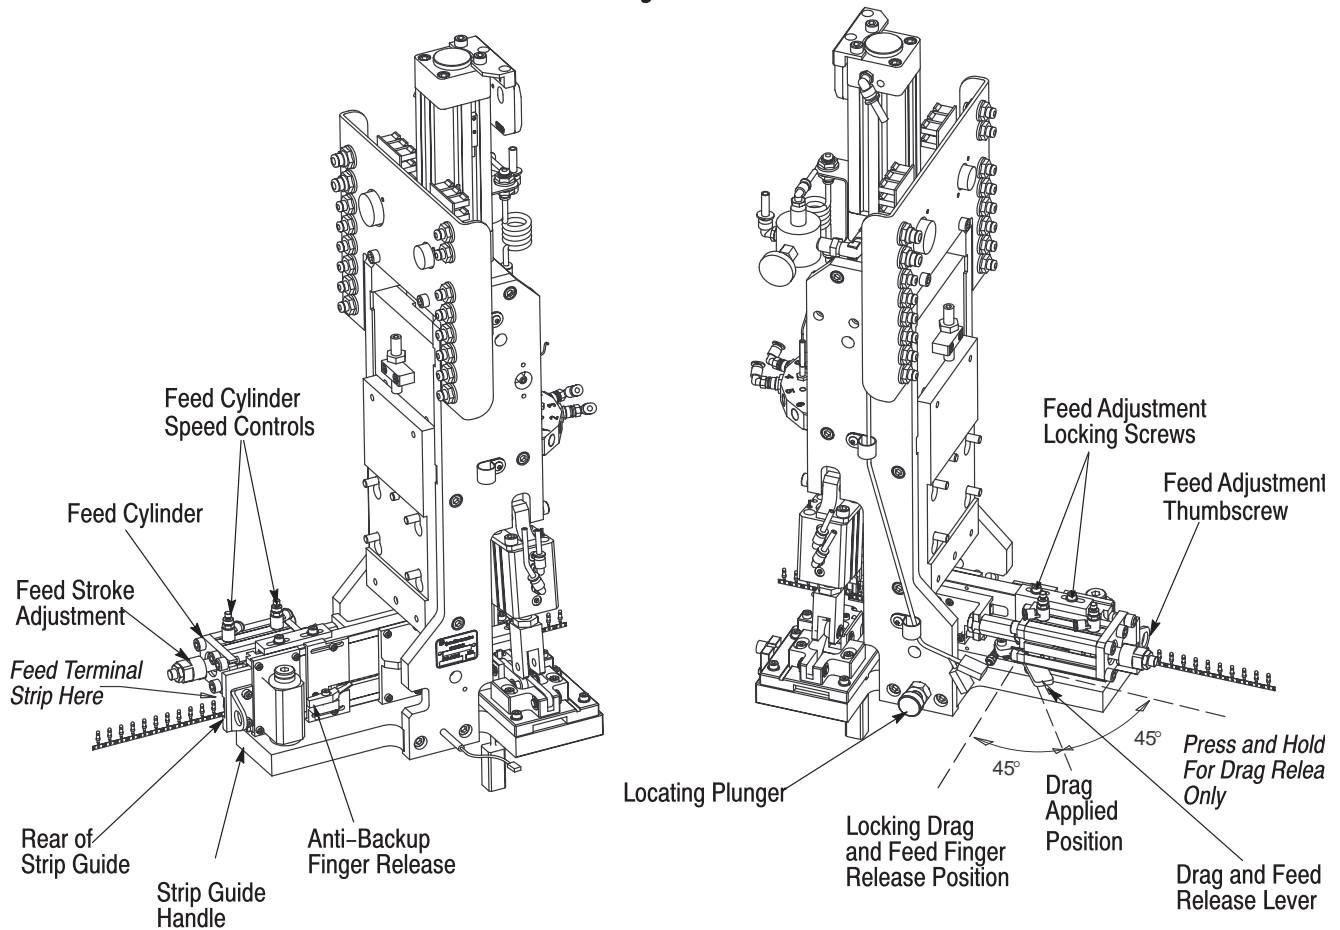

Figure 8
From the rear of the machine, rotate the drag release lever forward until it latches to release both the drag and disengage the feed finger. Refer to Figure 8. Press the rear of the anti back-up finger to disengage the finger, and pull the remaining terminal strip from the rear of the tool set. Return the drag lever to its applied (run) position.
7. Continue to advance the terminal strip until it appears at the front of the strip guide, then retract it slightly until the feed finger engages the terminal strip. Refer to Figure 8.
8. Release the drag release lever so that it returns to the drag applied position. See Figure 8.
- b. From the rear of the machine, rotate the drag release lever forward until it latches, to release the drag and disengage the feed finger. See Figure 8.